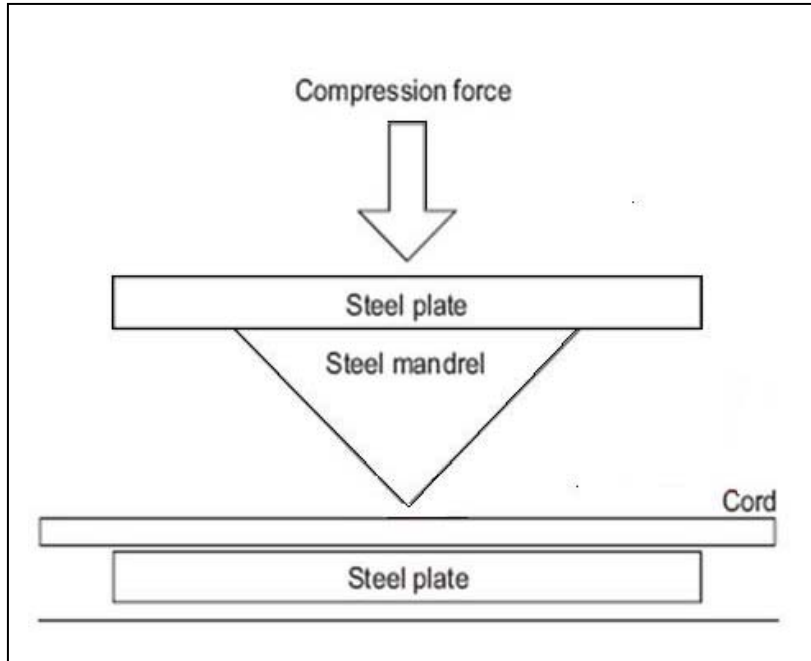

Figure 1: Set-up for Mandrel Pinching Test
- The cord is pinched between a flat steel surface and the corner of a steel mandrel. Figure 1 illustrates this test setup